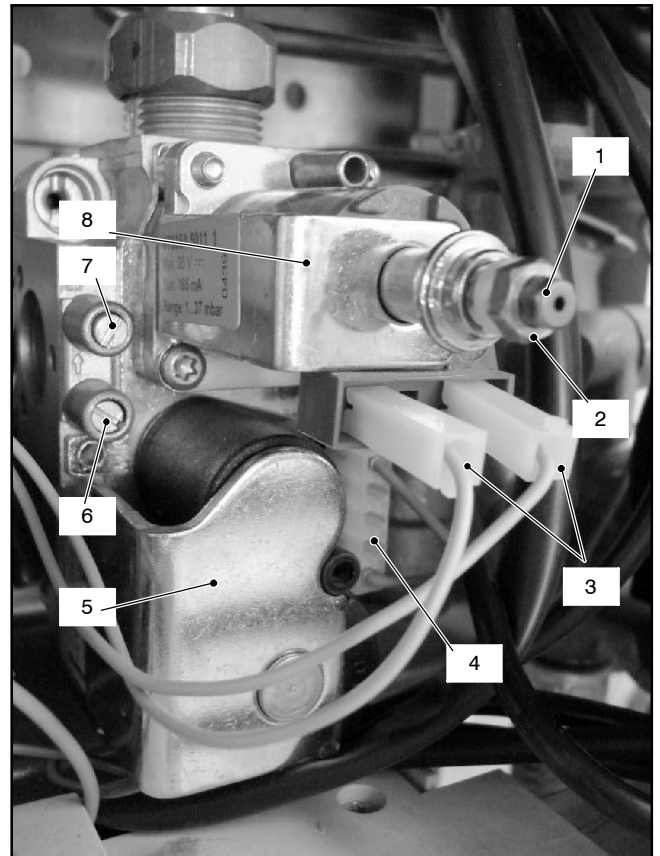

Fig. 54
11.2 Nomenclature of the parts (Fig. 54)
- 2 Open the gas valve inlet pressure test point (6 in Fig. 54) at the valve input, connect a suitable pressure gauge and check the gas pressure of the supply network.
- 4 Open the gas valve outlet pressure test point (7 in Fig. 54) and connect the gauge;
- 7 Rotate the maximum gas pressure adjustment (2 in Fig. 54) until you obtain the required pressure (by rotating clockwise the pressure increases).
- 8 Turn the boiler off and disconnect one of the two connectors (3 in Fig. 54).
- 9 Start the boiler and rotate the minimum gas pressure adjustment (1 in Fig. 54) until you obtain the required pressure (by rotating clockwise the pressure increases).